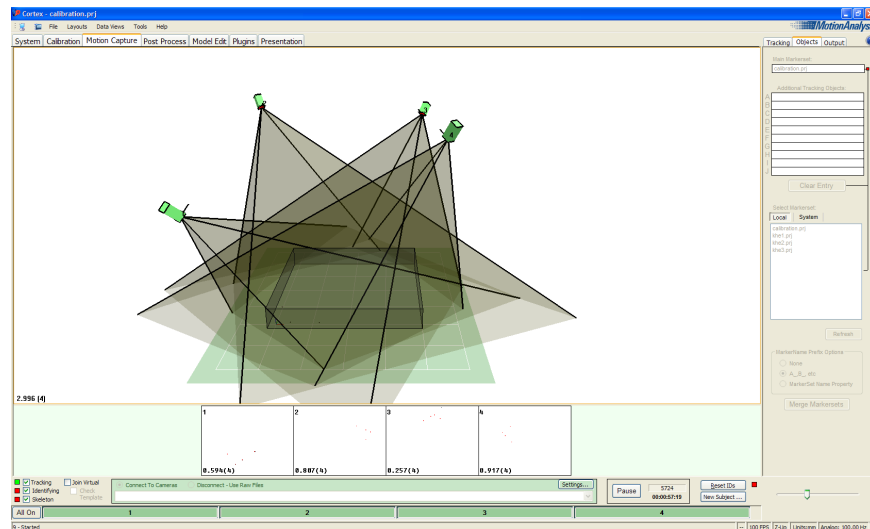

Figure 7: Cortex camera field-of-view.
- Verify if ALL cameras cover the whole working volume. If not, relocate the cameras to do so, as shown in figure 7.